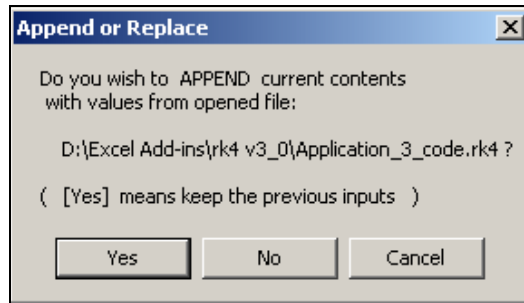

Figure 17. Choice Window for Appending or Replacing Contents.
5. Open the file containing the model code. An "APPEND or REPLACE" window should appear as shown in Figure 17. Click YES to append or NO to erase current contents and replace them with contents from the opened file.